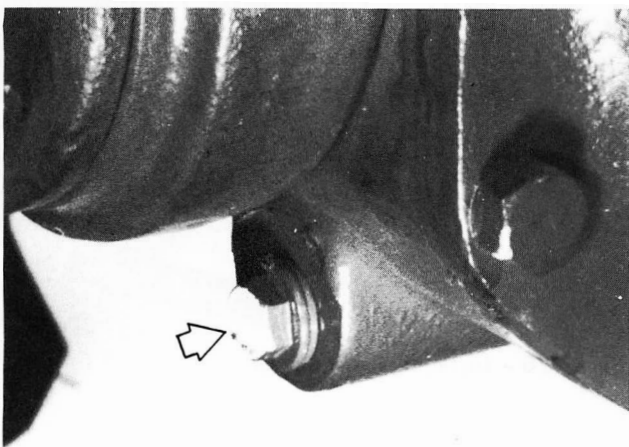
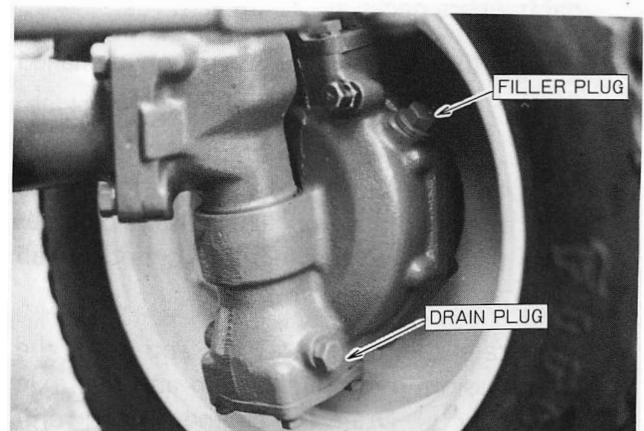

Figure 67 — Front Axle Differential Drain Plug
Figure 68 — Final Reduction Gear Case Fill and Drain Plugs
1. With the oil at normal operating temperature, drain the oil by removing the front axle differential, Figure 67, and final reduction gear case drain plugs, Figure 68. Reinstall the plugs after the oil has drained. Discard the oil.
2. Remove the filler plugs at each final reduction gear case, Figure 68, and fill with new oil as specified on page 28, and install the filler plug.